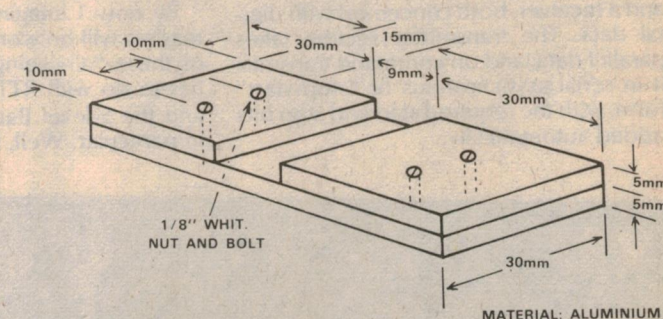

FIG. 8
- 1 IC lead bending tool, see Fig. 8
This has been done to facilitate the mounting of the ICs on the board. Fig. 8 gives details of a small jig which is used to bend the ends of the IC leads into a